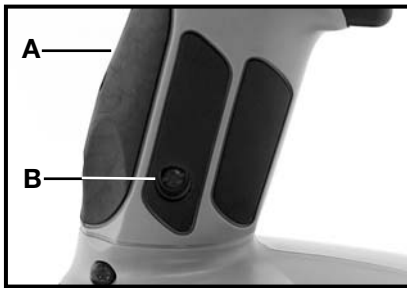
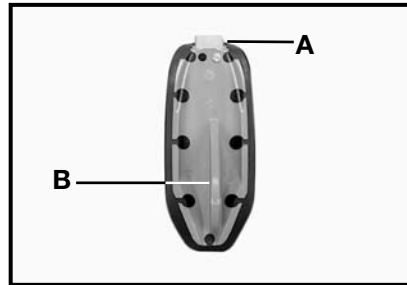

Fig. 6
Fig. 7
The drill is shipped with a medium grip insert (A) Fig. 6 installed. To change the grip, remove the Phillips head screw (B) Fig. 6 from right side of the handle by turning it counter-clockwise. Lift the grip insert from the back of the handle. Install a new grip insert by first placing the tab (A) Fig. 7 at the top of the grip into the corresponding slot in the drill/driver handle. The retention fin (B) Fig. 7 will fit in the slot provided. Hold the grip against the handle, and insert and tighten the Phillips head screw (B) Fig. 6 until snug. Do not over tighten.